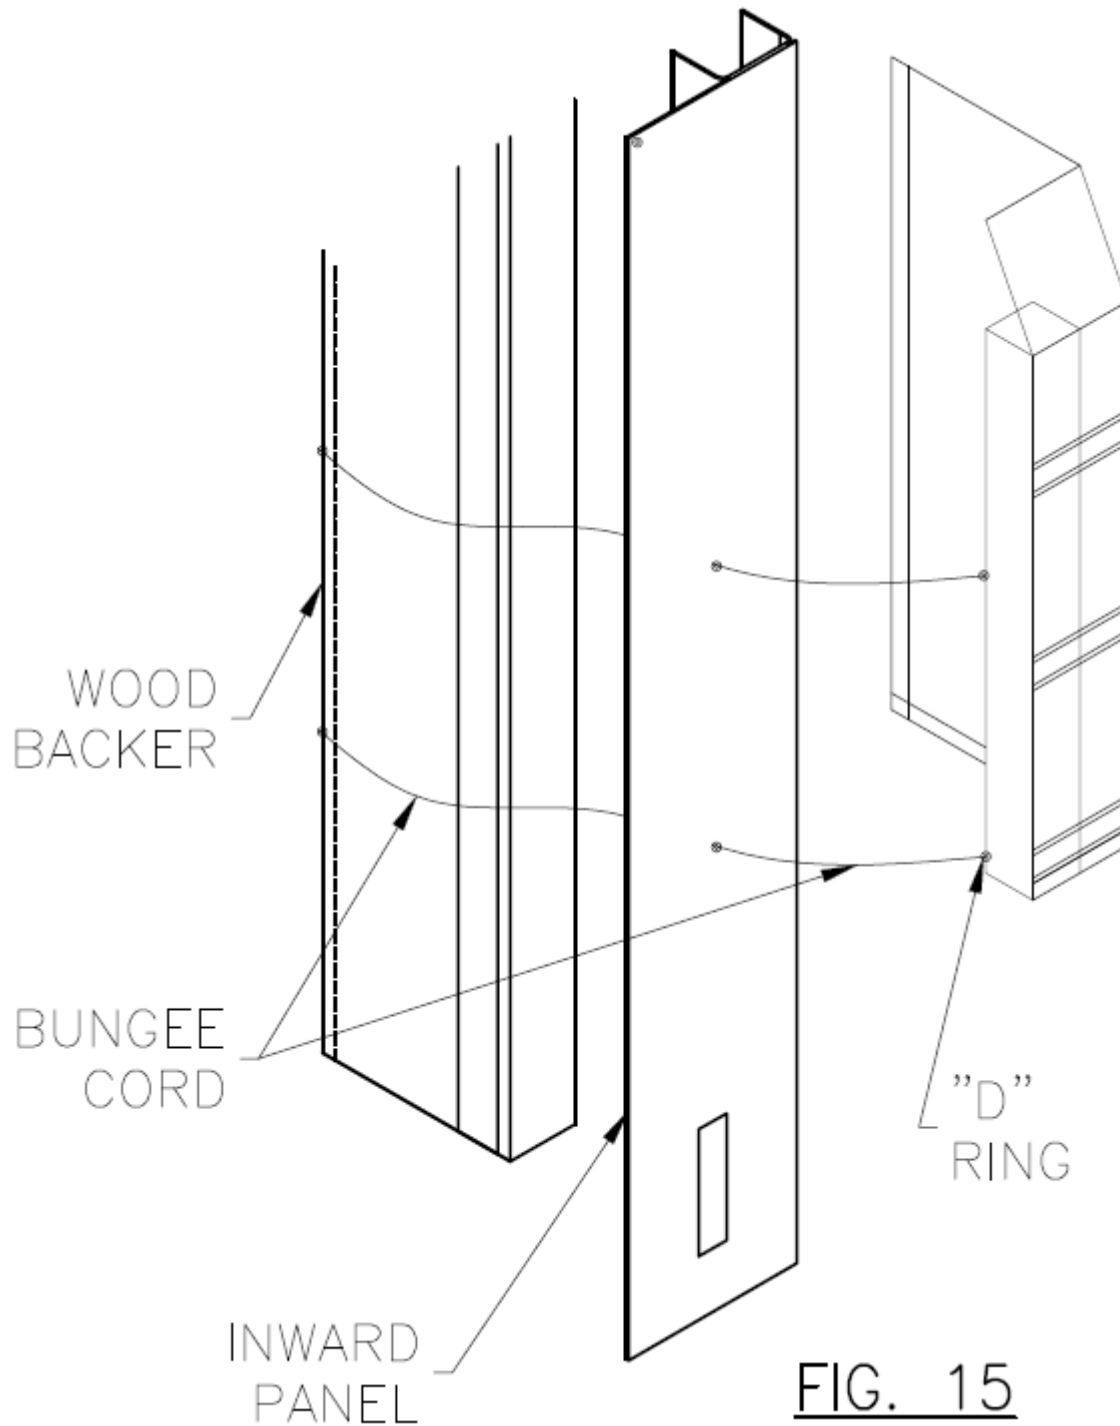

FIG. 15
10. Attach BUNGEE CORD on inside of Vertical (x2). Hook Bungee to "D" RING on side curtain and pass through hole in inward panel, stretch to WOOD BACKER on FOAM PAD and Secure. SEE (Fig.15).